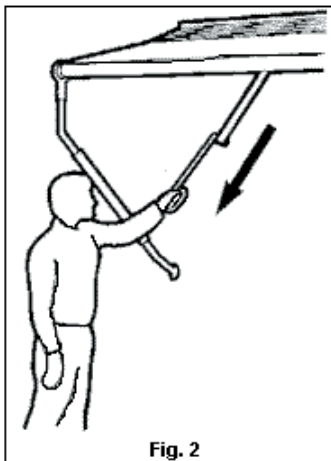

Fig. 2
2. Insert the pull rod into the loop of the center control strap and unroll the awning by pulling it toward you (Fig. 2). Step under the awning and fold or roll the control strap toward the backside of the roller and tuck under restraining strap.